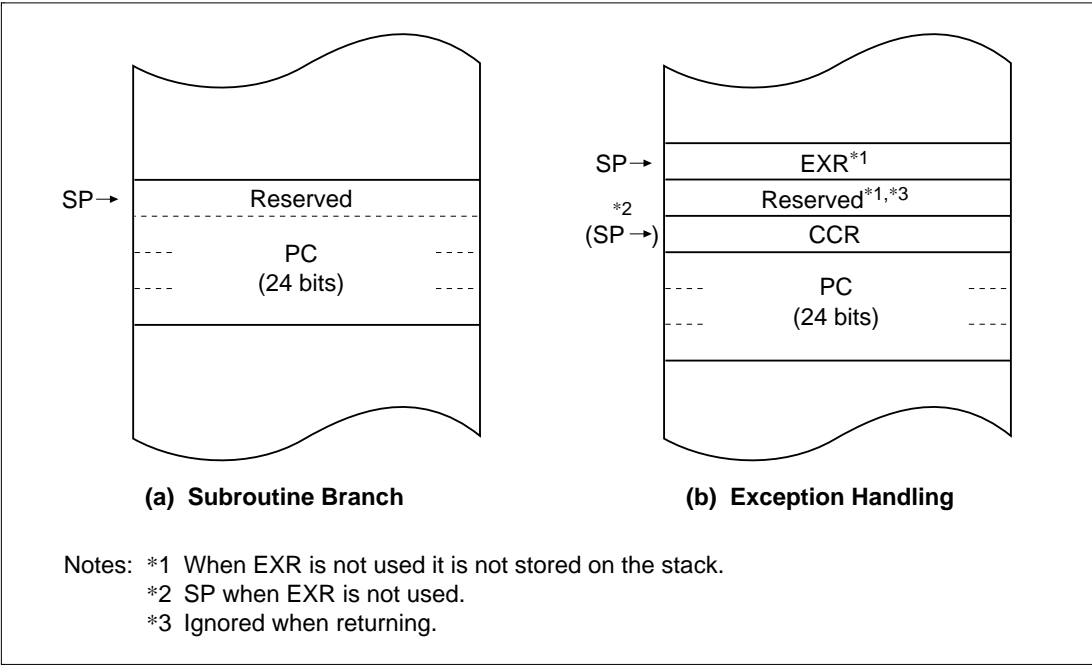

Figure 2-5 Stack Structure in Advanced Mode
Stack Structure: In advanced mode, when the program counter (PC) is pushed onto the stack in a subroutine call, and the PC, condition-code register (CCR), and extended control register (EXR) are pushed onto the stack in exception handling, they are stored as shown in figure 2-5. When EXR is invalid, it is not pushed onto the stack. For details, see section 4, Exception Handling.